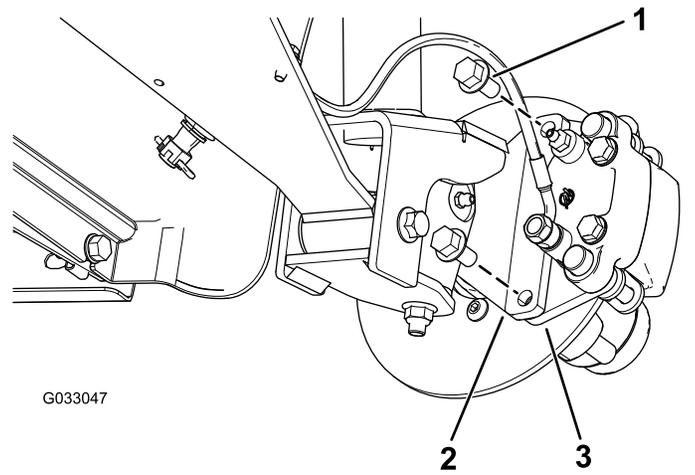

**Figure 33**
2. Remove the 4 lug nuts that secure the wheel to the hub (Figure 33).
4. Align the holes in the wheel to the studs of the hub and assemble the wheel to the hub with the valve stem outward (Figure 33).
5. Secure the wheel to the hub using the lug nuts (Figure 33).